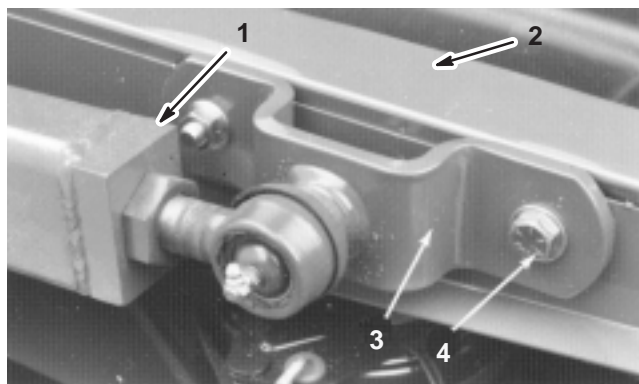

Figure 66
5. Remove the 4 capscrews, flat washers, and flange nuts securing ball joint mounts to castor arms on cutting unit (Fig. 66).